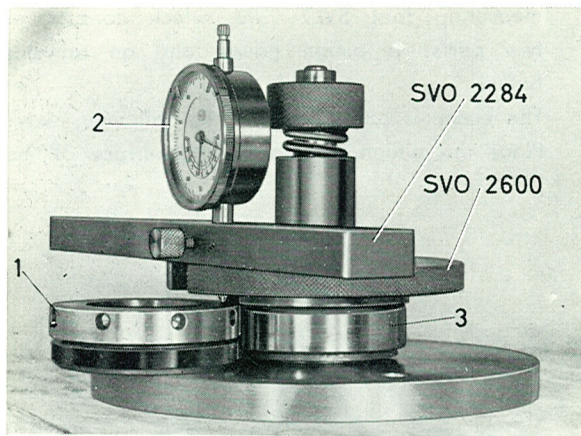
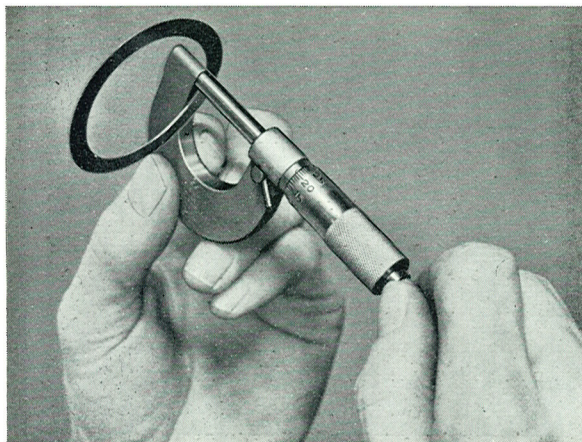

Fig. 4-110. Determining the shim thickness
Fig. 4-111. Measuring the shims
outer ring in measuring fixture SVO 2600. Put on the plate, spring and nut. Turn the nut with the flat side facing upwards. The plate, and thereby the bearing, is turned forwards and backwards several times so that the rollers take up the correct position. Place the adjusting ring in the measuring fixture as shown in Fig. 4-110. Use retainer SVO 2284 and dial indicator, place the measuring point of the indicator opposite the adjusting ring and zero-set the indicator. Then set the pointer of the indicator to the outer ring of the bearing. The dial indicator now shows directly the thickness the shims should have. Measure shims for the correct thickness with a micrometer, see Fig. 4-111. N.B. It is almost impossible to obtain a shim with exactly the correct thickness. However, they must not be 0.03 mm (0.0012") thicker than the measured value, but up to 0.05 mm (0.002") thinner.
3. When the correct backlash and contact pattern are obtained, remove the differential and adjusting ring. Then place the centre washer on the measuring fixture. Fit a bearing into the measuring fixture, likewise the plate, spring and nut. Fit the nut with the flat side facing downwards. Rotate the plate forwards and backwards several times. Put on the dial indicator and retainer SVO 2284. Zero-set the indicator to the adjusting ring and then place the measuring point facing the bearing, see Fig. 4-110. Read off the indicator. With a micrometer measure the shims, the total thickness of which corresponds to the read-off value + 0.07 mm (0.003"). Place the shims together with the measured bearing to the one side. Repeat the above procedure with the other bearing.